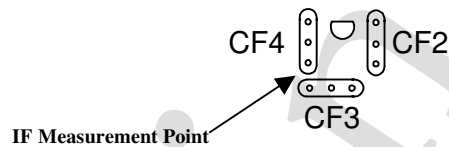

Figure 1
- 3) Tune the **S400** to 98,000 MHz (83.00 MHz for Japan). Measure with an oscilloscope, the IF-signal 10.7 MHz at the common point between **CF3** and **CF4** found at position "O4" (see Figure 1). This point will be "DC voltage free". **Leave the oscilloscope set to this point until told to remove it.** In the order listed below: